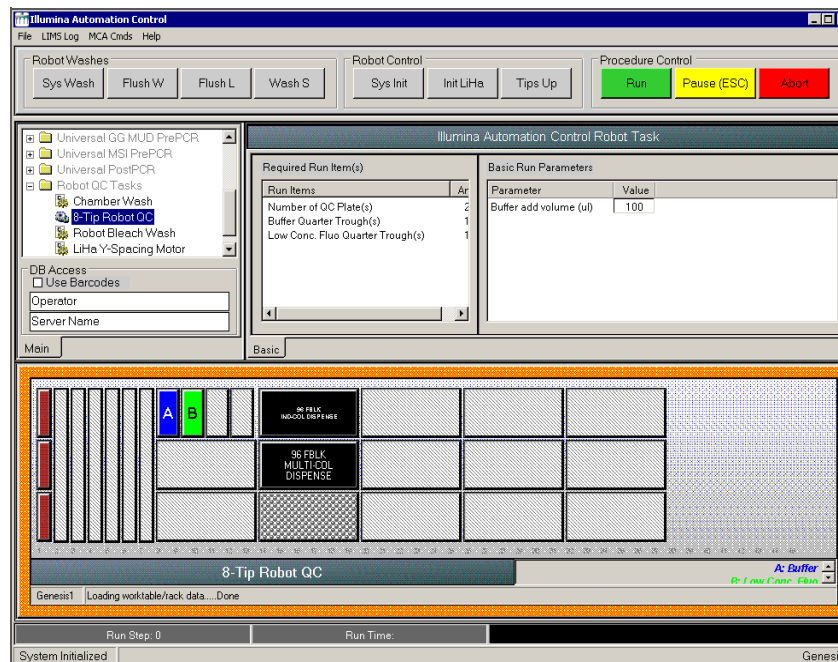

Figure 78 8-Tip Robot QC Task
### 3. Select Robot QC Tasks | 8-Tip Robot QC (Figure 78).
4. Add 35 ml fluorescein dilution buffer to a quarter reservoir. Place the reservoir in position A of the reservoir frame, as shown on the robot bed map (Figure 78).